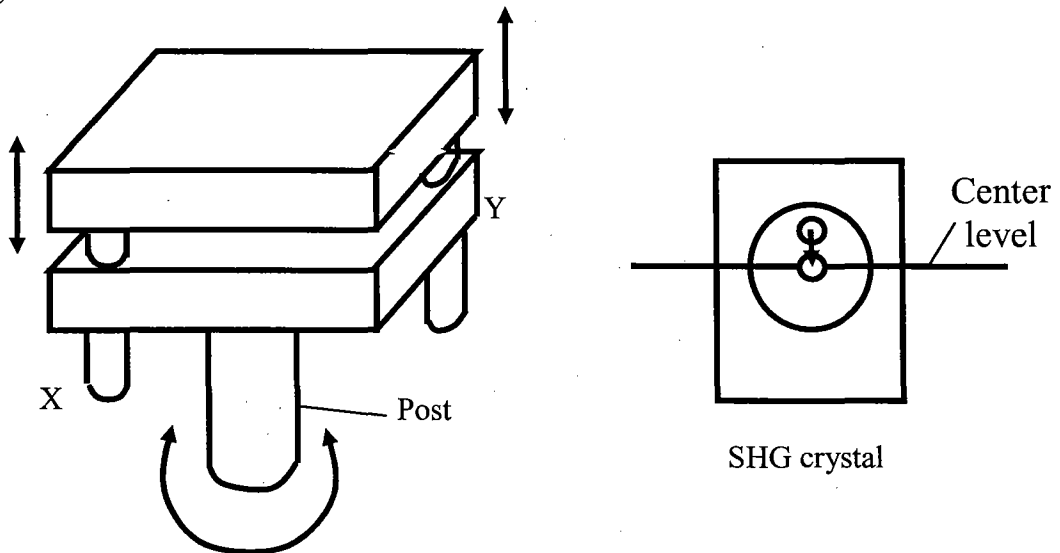
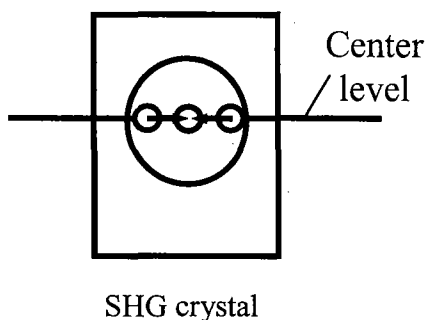

Figure 5 Adjustment of the platform mount X and Y direction to move the laser beams to the center of the SHG crystal.
Figure 6 Rotate the autocorrelator around the vertical axis of the mounting post to make the two separated beams to recombined at the center of the SHG crystal
7. Rotate the half wave plate (WP) to change the relative intensity of the two beams until both beams can be clearly seen on a business card or sensor. Note the intensity of the two beams may be different depending on the wavelength.
8. When the two beams from mirror M2 and M3 have different beam level from the center of the SHG crystal adjust the platform X and Y direction to move the two beams to the same level of the SHG crystal center as in figure 5.
9. When the two beams from mirror M2 and M3 are not overlapped at the center of the SHG crystal rotate the autocorrelator around the axis of the mounting post (see figure 5) to move the position of the two beams to center of the SHG crystal as shown in figure 6.
22. Position the autocorrelator and let the aligning laser beam pass the center of the entrance iris. Close the iris to minimum aperture (0.5 mm). Adjust the X and Y direction of the platform mount and rotate autocorrelator around the axis of the mounting post as shown in figure 5 to make the laser beam reach the center of the mirror M1. The laser beam level at the M1 should be the same as that at the iris.